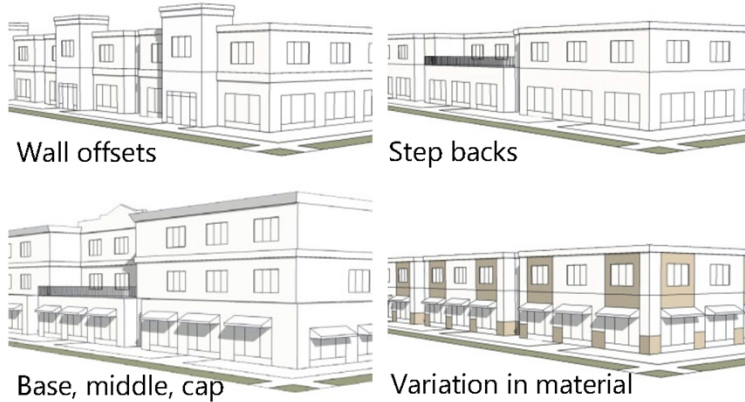

Figure 040-28: Building Articulation Techniques
- iv. Variation in material (Figure 040-28).